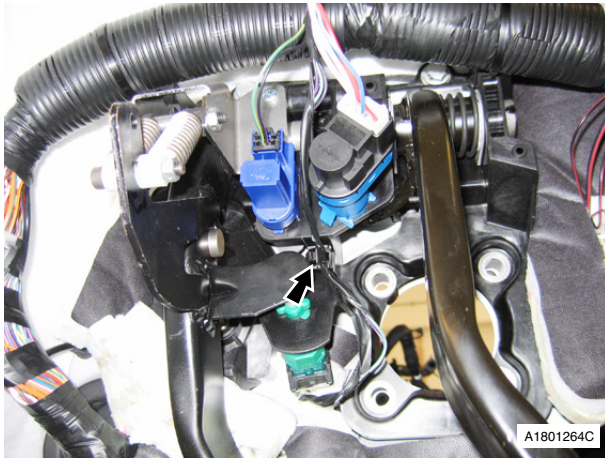

Fig. 4
32. Remove harness clips (x3) (see Fig. 4).